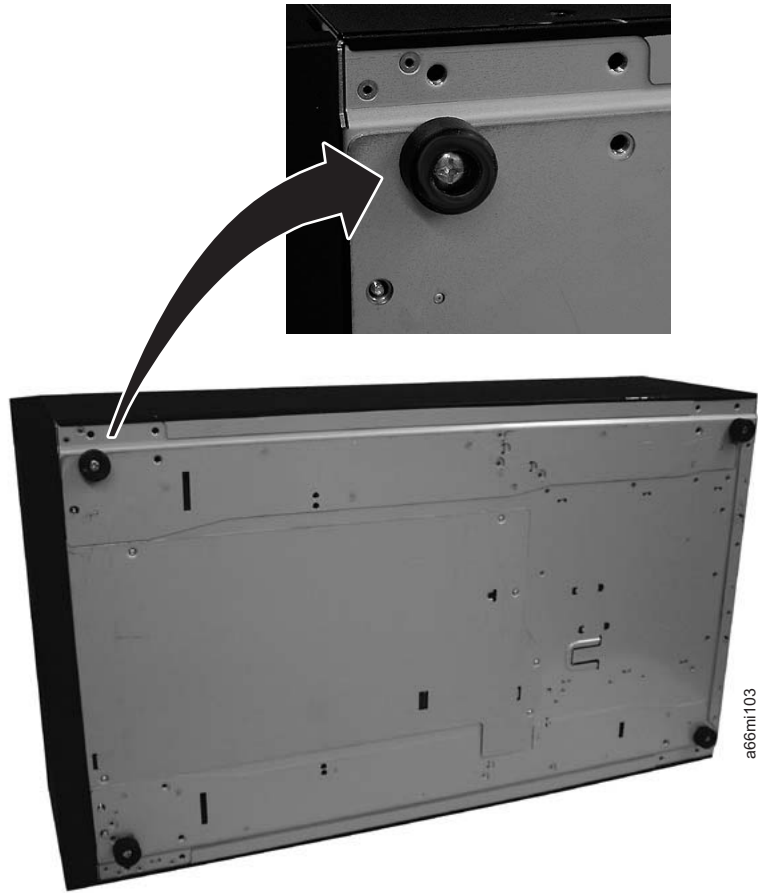

Figure 8-81. Foot pad Locations
2. Using a #2 Phillips screwdriver, install the foot pads on the bottom of the library chassis. See Figure 8-81 on page 8-81 for foot pad locations.